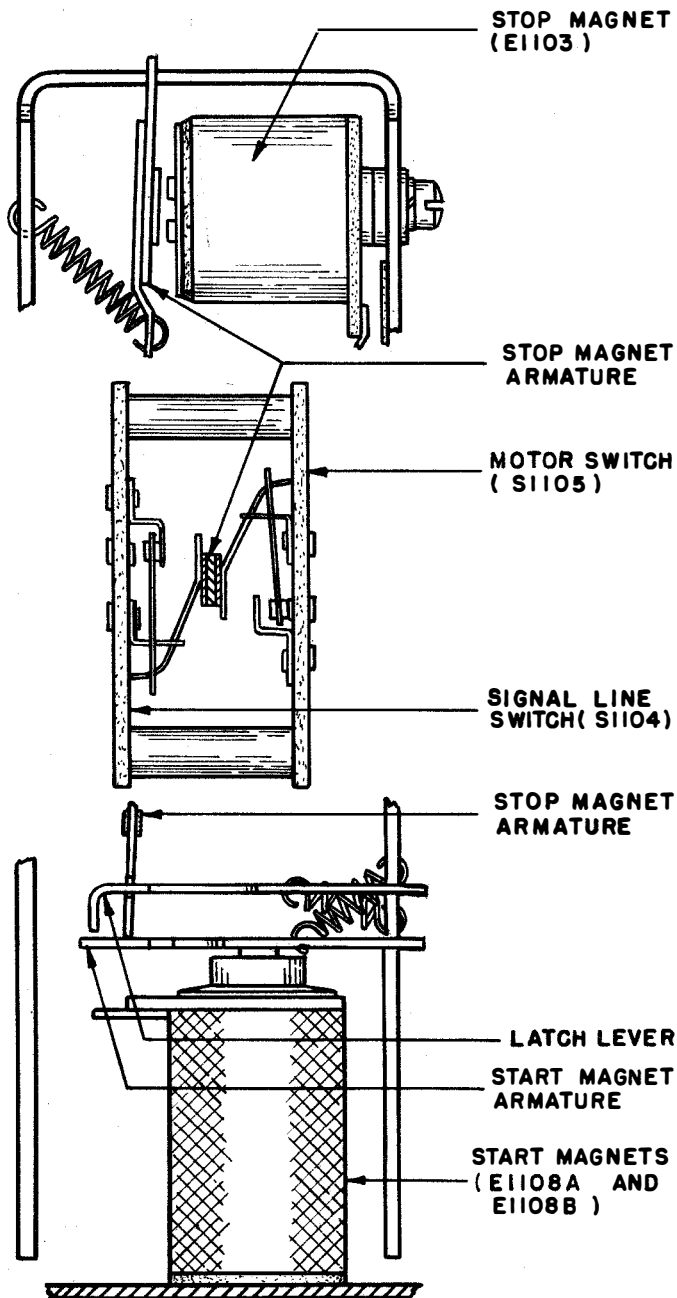

Figure 2-82. Electrical Motor Control Mechanism, Start Position
(3) START POSITION. (See figure 2-82.)—In this position, the signal line has just been closed, and the start magnets E-1108A and E-1108B have been energized to pull the start magnet armature downward and release the stop magnet armature. The stop magnet armature has swung to the left and operated switches S-1104 and S-1105. When S-1104 operated, it removed the start magnets E-1108A and E-1108B from the signal line circuit so that their armature would not vibrate with the line signals. When S-1105 operated, it completed the circuit to the AC Motor, and to the copy light.